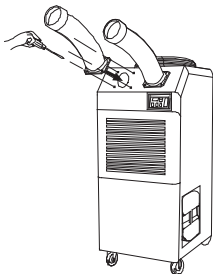

Figure 11 – Cool Air Outlet attachment
2. Place the cool air outlet hose(s) on the front top of the unit as shown in Figure 11